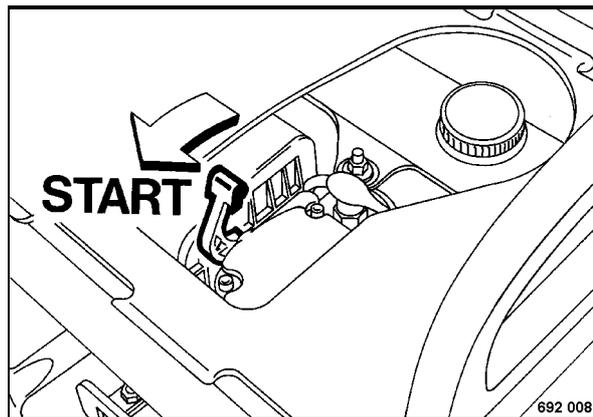

Fig. 12
- Pull the decompression lever (Fig. 12) in direction of arrow to the end stop.